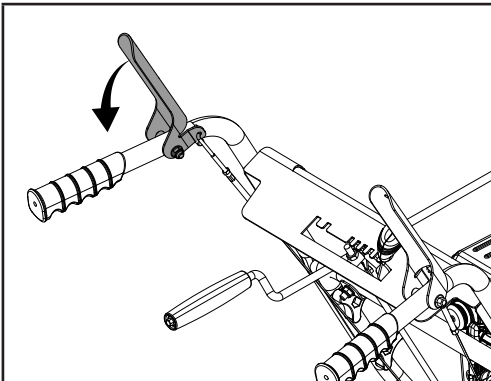

Figure 33
12. Pull the auger control handle to ensure the idler pulley is properly engaging the belt (Fig. 33). Under the belt cover area, make sure the distance on both sides between the guide and pulley is the same.